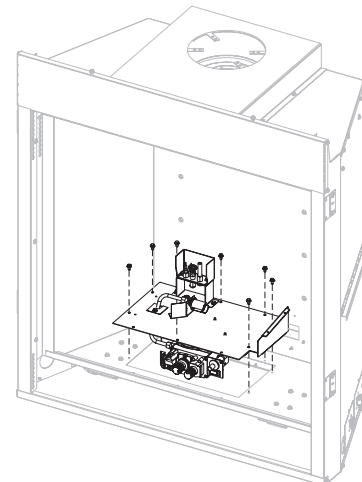

Figure 11
8. Remove ten screws and lift burner assembly. Disconnect gas line. Retain screws and burner assembly for reassembly. See Figure 11.
15. Reinstall the burner assembly and ten screws removed in step 8. **See Figure 11.**